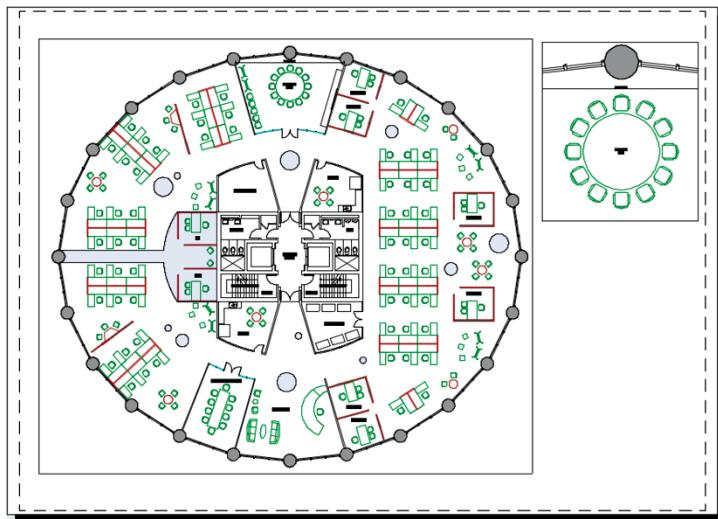

FIGURE 13.20 Creating and configuring a new viewport detailing the Conference Room
- Double-click within the new viewport to enter its model space. Select $1/2" = 1'-0"$ (or 1:20 in metric) in the Viewport Scale menu on the status bar; the viewports zoom into the Elevator Lobby again. Pan downward until you center the view on the Conference Room. Double-click outside the viewport to return to paper space. Figure 13.20 shows the result.